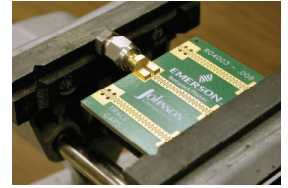

Figure 1
1. Fixture 140-0000-973 should be used as an aid during manual soldering. The fixture protects the connector from damage during clamping and also maintains the proper location of the connector's insulator and contact. To use the fixture, thread the coupling nut on the mating end of the connector and hand tighten. This mounting assembly can now be held in a vice or similar clamping device, as shown in Figure 1.